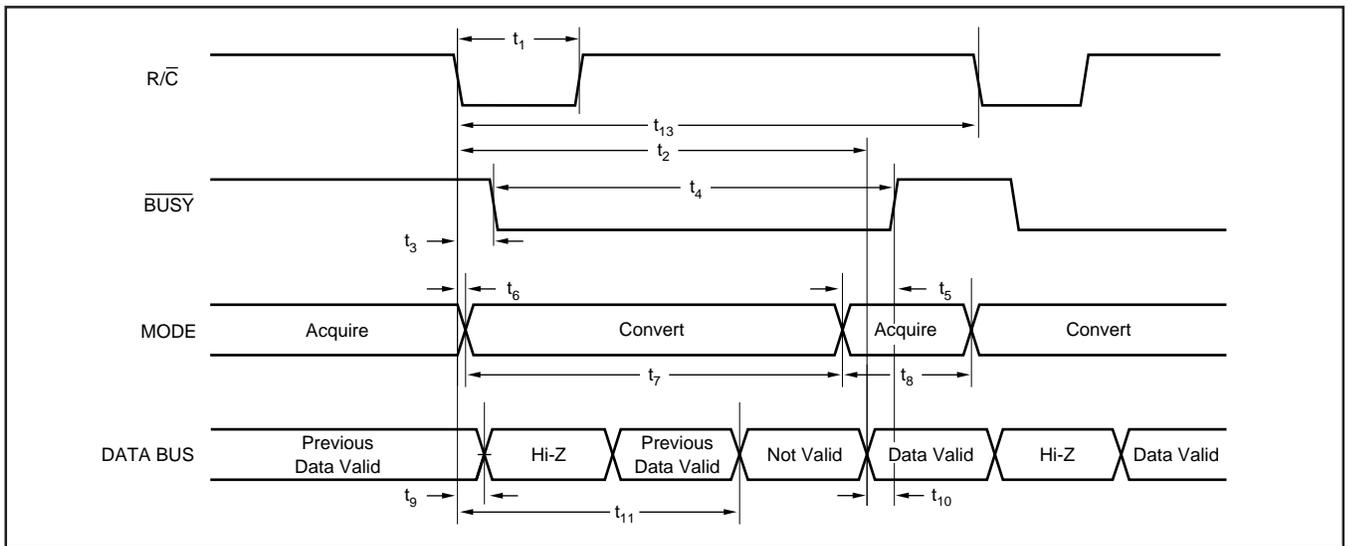

FIGURE 3. Conversion Timing with Outputs Enabled after Conversion (\overline{CS} Tied LOW).
Table II for a summary of $\overline{\text{CS}}$, $\overline{R/\overline{C}}$, and $\overline{\text{BUSY}}$ states and Figures 3 through 5 for timing diagrams.
NOTE: (1) See Figures 3 and 4 for constraints on data valid from conversion "n-1".
After conversion 'n' is completed and the output registers have been updated, \overline{BUSY} (pin 26) will go HIGH. Valid data from conversion 'n' will be available on D15-D0 (pins 6-13 and 15-22). \overline{BUSY} going HIGH can be used to latch the data. Refer to Table IV and Figures 3 to 5 for timing specifications.
After conversion 'n' has been initiated, valid data from conversion 'n – 1' can be read and will be valid up to $7\mu s$ after the start of conversion 'n'. Do not attempt to read data from $7\mu s$ after the start of conversion 'n' until \overline{BUSY} (pin 26) goes HIGH; this may result in reading invalid data. Refer to Table IV and Figures 3 to 5 for timing specifications.
The number of control lines can be reduced by tying \overline{CS} LOW while using R/\overline{C} to initiate conversions and activate the output mode of the converter (see Figure 3).